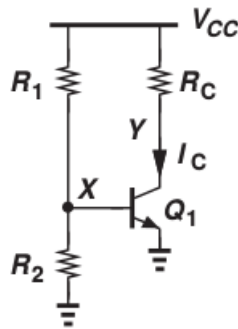

Figure 1: Resistive Divider Biased System
**Q1** Given the following system as shown in Fig. 1.  $Q_1$  is so-call NPN bipolar device, which has following voltage-current characteristic: